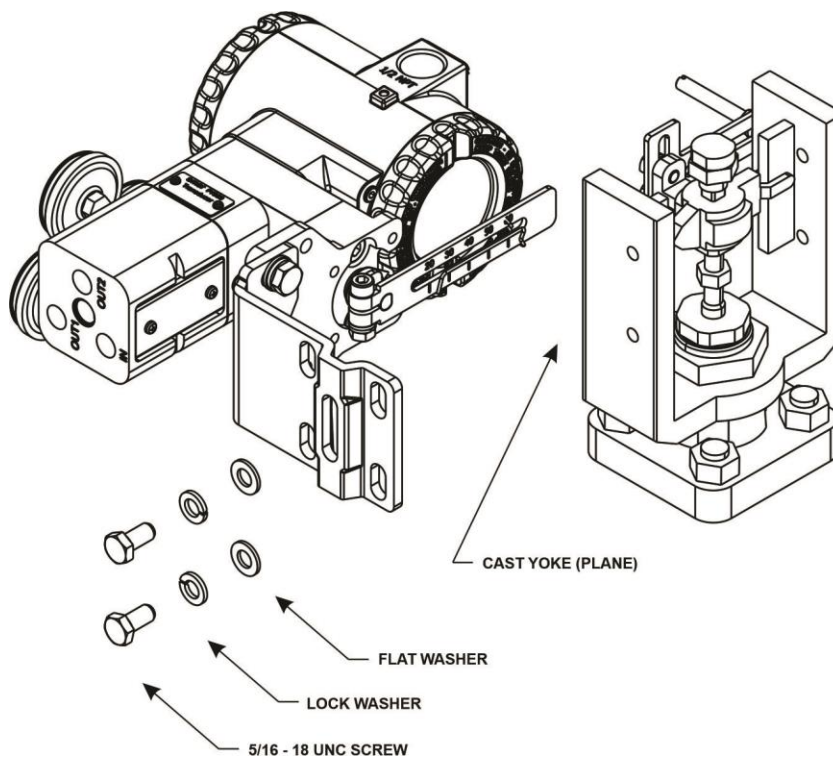

Figure 1.14 – Attachment to cast yoke with plane surface
- **For actuators with cast yoke with plane surface application**, using two 5/16 – 18 UNC screws, two lock washers, and two flat washers. See figure 1.14.